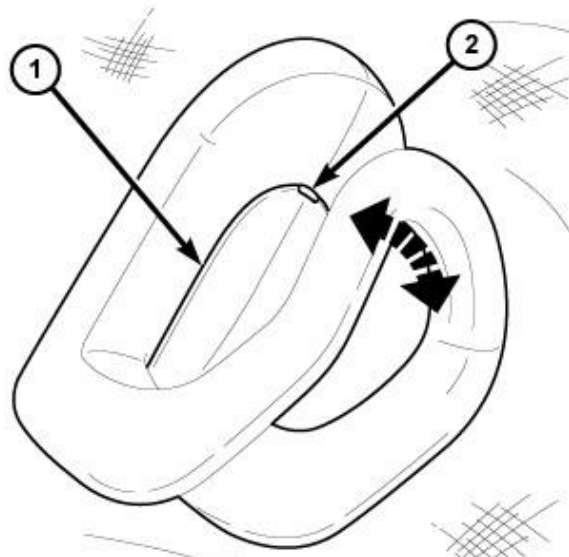

Figure 9 – Coat Hook
14. Using a small flat bladed tool, open the coat hook screw cover (2) then remove the screw and coat hook (Figure 9).
31. Position the coat hooks (5) onto the headliner and install the screws tightening securely into the mounting clips then close the screw cap fully (Figure 9).